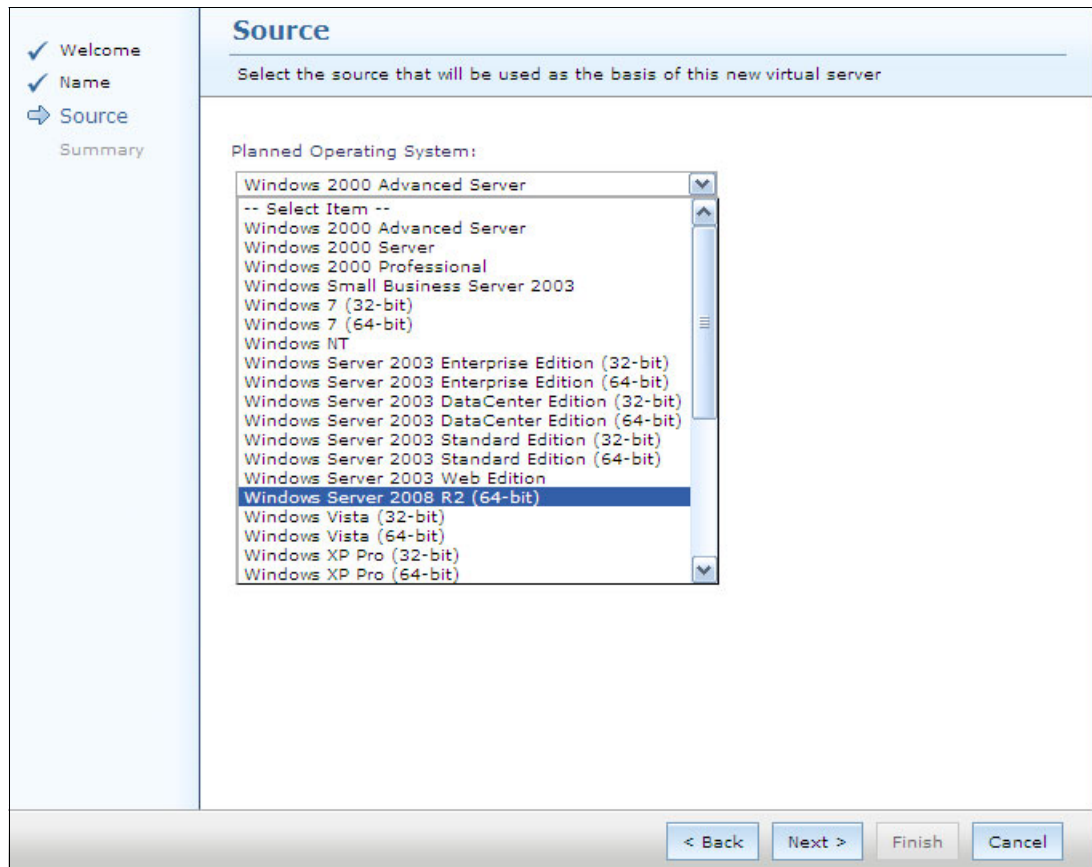

Figure 11-7 Create Virtual Server Source window
6. Select the operating system that you are planning to install on this virtual server. In this example, **Windows Server 2008 R2 (64 bit)** is selected, as shown in Figure 11-7. Click **Next**.